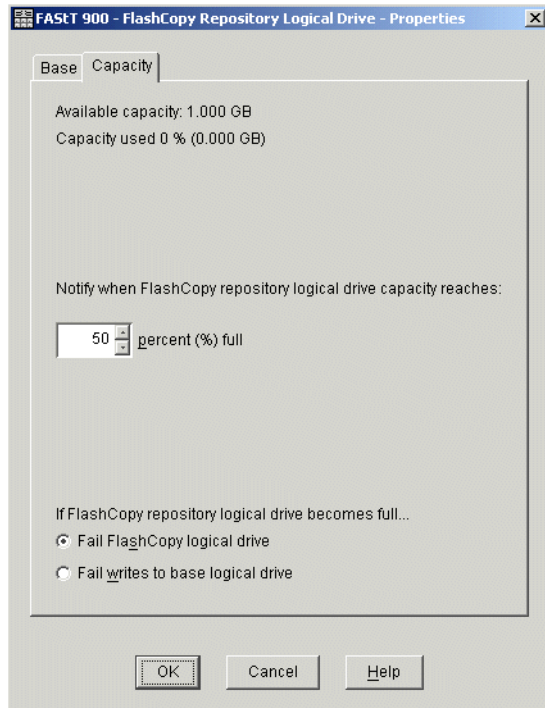

Figure 7-2 Repository capacity settings
3. Select the **Capacity** tab to view the currently defined settings (Figure 7-2).
7. In the Create FlashCopy Logical Drive Wizard, specify Repository Capacity window, use the percentage (%) full box of base logical drive to set the estimated FlashCopy repository logical drive capacity (Figure 7-2 on page 197).